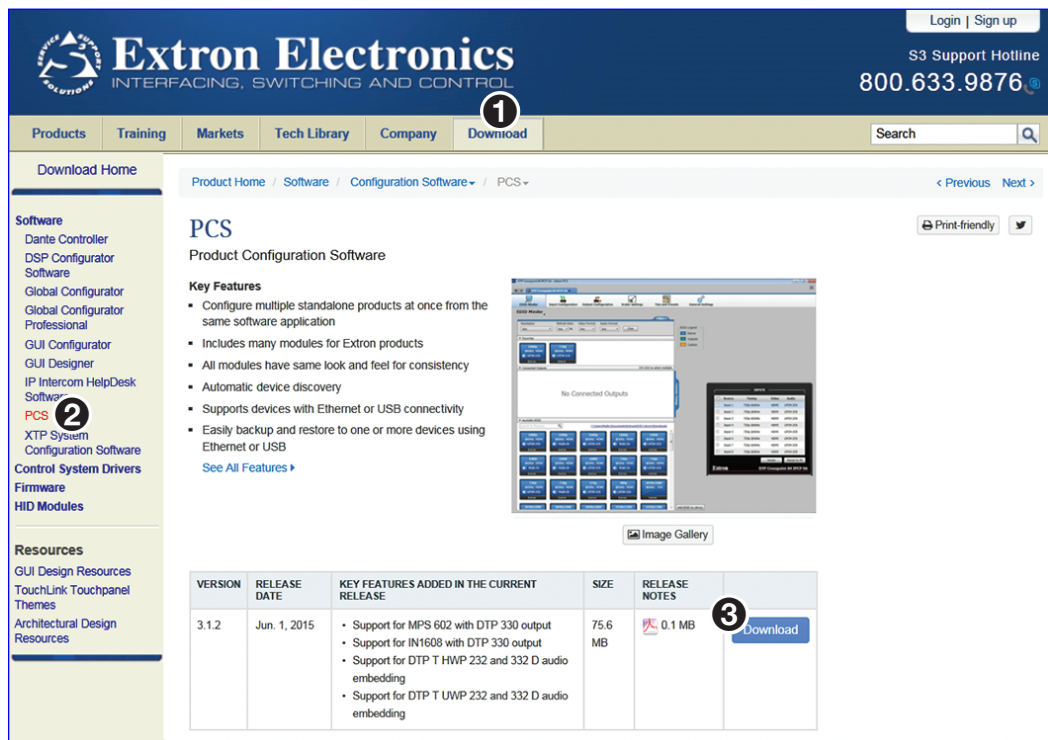

Figure 11. PCS Download from the Extron Website
1. On the Extron website, select the **Download** tab (see figure 11, 1).
- From the left sidebar on the **Download** page, click the **PCS** link (see figure 11, ② on the previous page).